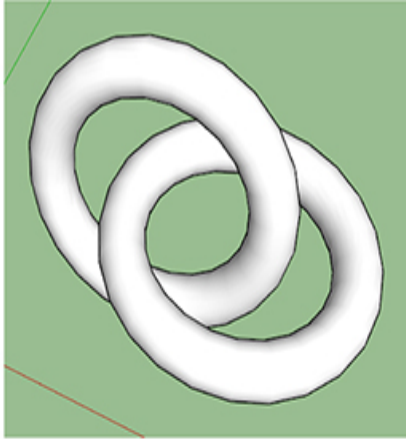

Figure 5-2 Leave appropriate space between separate parts.
■ **Leaves enough clearance (space) between moving or separate parts such as links, gears, and cogs** (Figure 5-2).